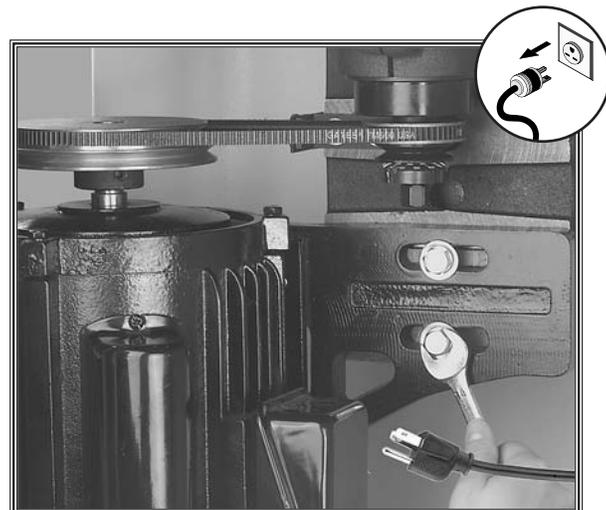

Figure 61. Loosening the motor mount hex bolts.
2. Loosen the two hex bolts holding the motor mount to the spindle slide, as shown in **Figure 61**. Do not remove the bolts completely.